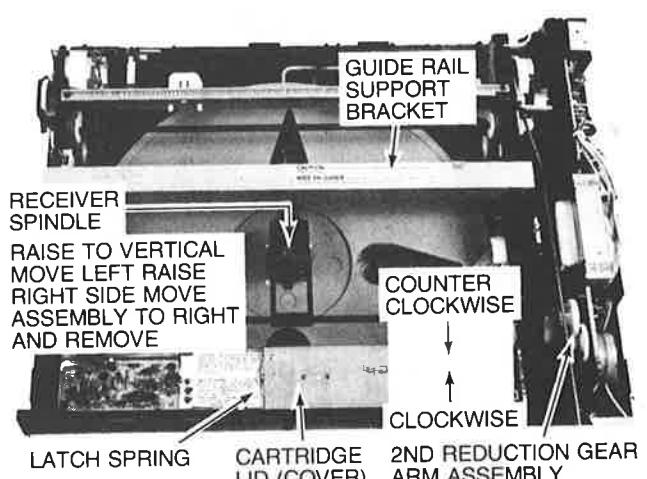

Fig. 14—Stylus Cartridge and Receiver Spindle
- Remove stylus cartridge and store in safe place. Place instrument, bottom up, on workbench with soft surface. If cabinet top has been removed also remove receiver spindle assembly (Fig. 14).
2. Using thumb—rotate 2nd reduction gear (Fig. 14) in counter clockwise direction moving the arm assembly to a point where the stylus cartridge access cover (lid) is accessible.
1. With cabinet top removed—rotate receiver spindle assembly to a vertical position (Fig. 14).